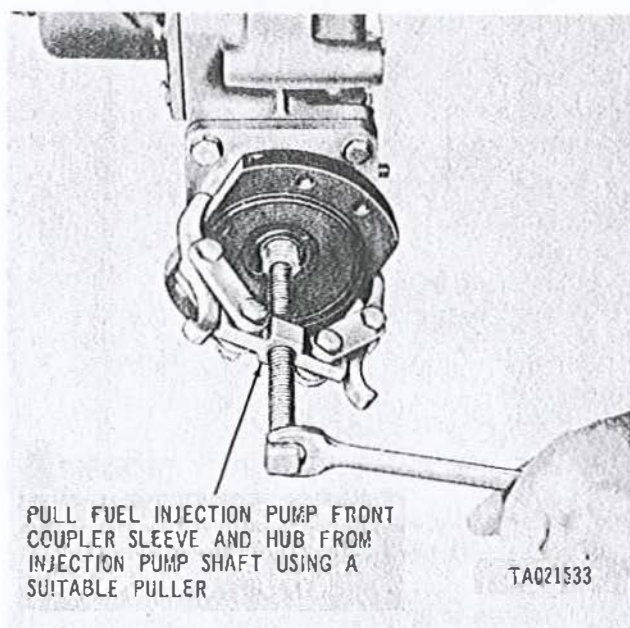

Figure 2-46. Removing fuel injection pump coupling sleeve and hub.
(18) Remove fuel injection pump front coupling sleeve and hub from injection pump shaft using a suitable puller (fig. 2-46).